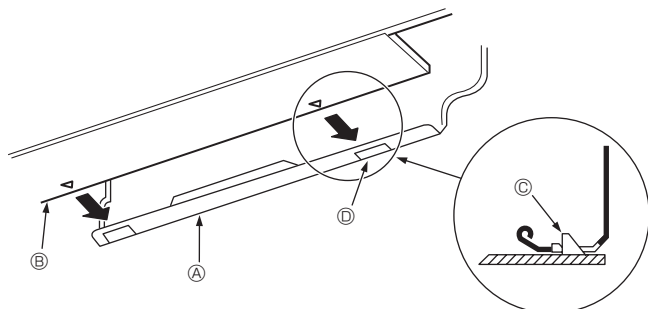

Fig. 3-11
3. While inserting the refrigerant piping and drain hose into the wall penetration hole (penetration sleeve), hang the top of the indoor unit to the mount board ①.
5. Fasten by pushing the bottom part of the indoor unit onto the mount board ①. (Fig. 3-11)
* Check that the knobs on the bottom of the indoor unit are securely hooked into the mount board ①.